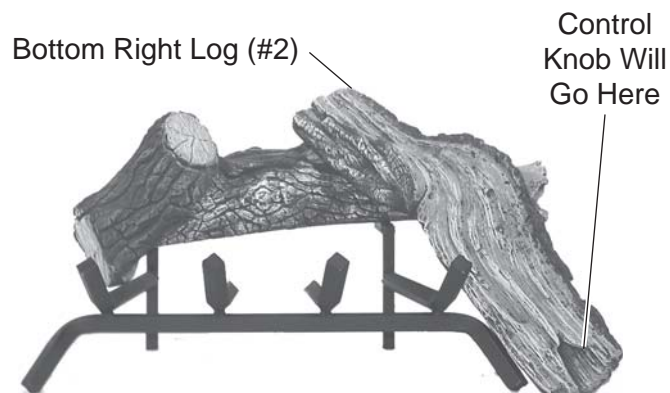

Figure 124 - Placing Bottom Right Log (#2)
3. Place Bottom Right Log #2 along outside of grate. Rest end on Rear Log #1. Control knob will stick through bottom notch of log. See Figure 124.